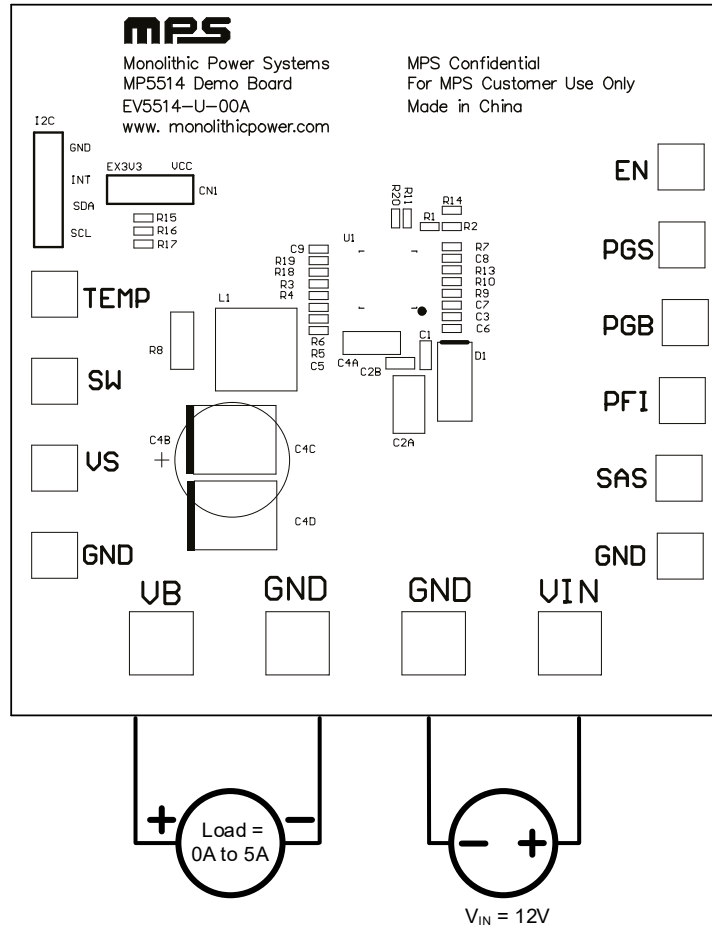

Figure 1: Measurement Equipment Set-Up
11. Figure 1 shows the proper measurement equipment set-up.